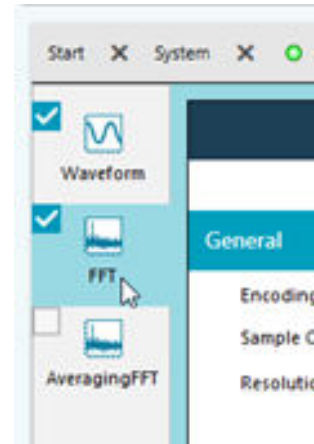

Figure 31. Selecting FFT in Analysis Window
- The **FFT Analysis** window then opens. From the left-hand pane, select the **FFT** option (see Figure 31).